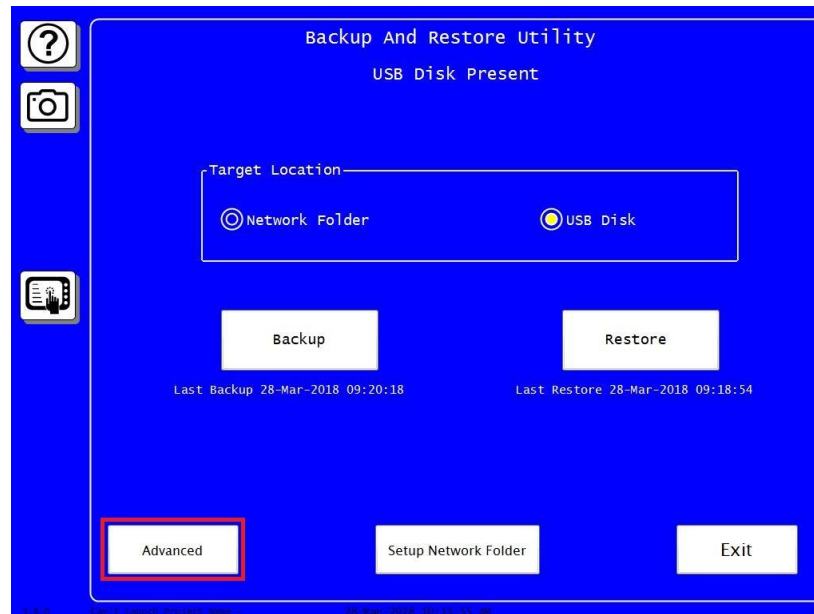

Figure 2. Backup and Restore Utility Menu Advanced
2. Press **Advanced** (Figure 2).